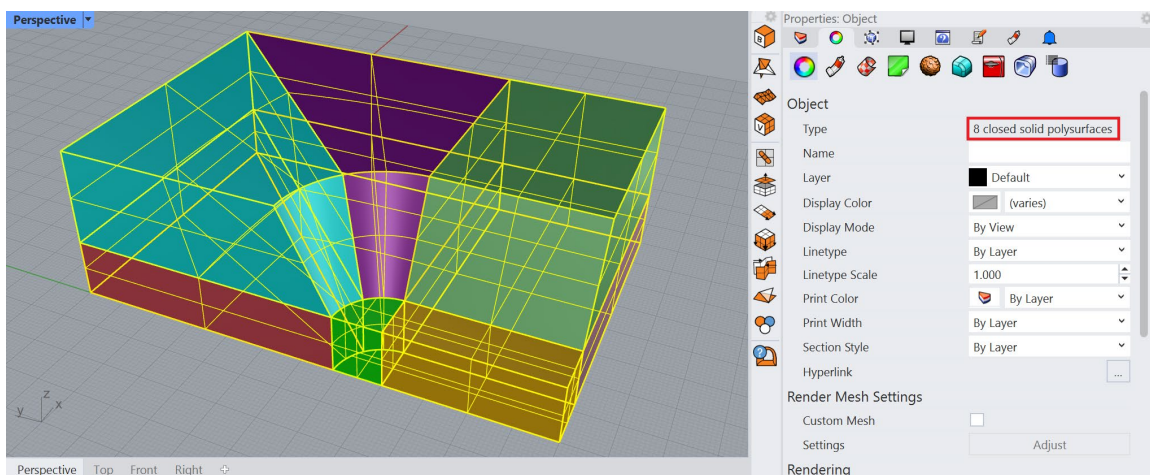

Figure 47: Solid blocks of the model (Ghosted view).
22. Select all remaining objects with **Ctrl+A** and verify that *Rhino* reports only eight polysurfaces have been selected. If any surfaces are reported, this is an indication that they were not joined to a solid block. Find and join them so that only eight closed polysurfaces (solids) are present. While the solids are selected, navigate to the *Properties* panel (or press **F3**) and ensure that object *Type* indicates that they are closed polysurfaces (Figure 47). If the *Type* field says "varies", most likely it means that some solids are not closed (probably incorrect surfaces were created).